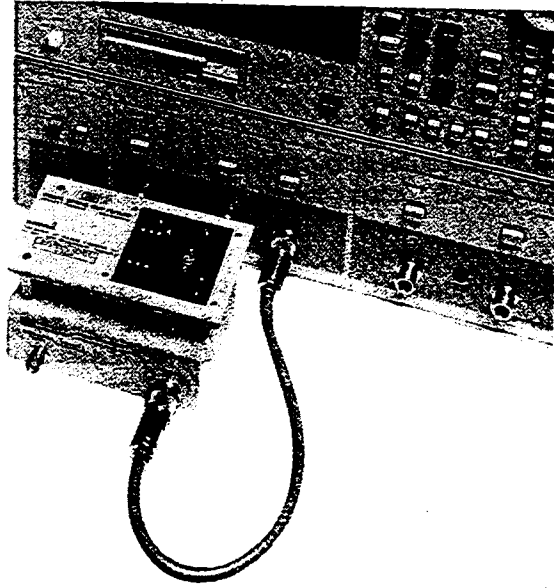

Figure 3-4. Test Fixture Connection
20. Disconnect the  $50\Omega$  termination and place the test fixture atop the Impedance Test Adapter as shown in Figure 3-4.